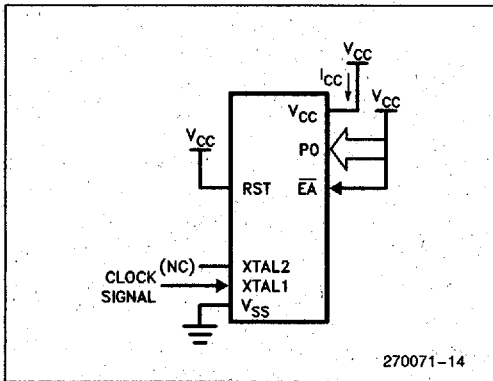

Figure 5. I_{CC} Test Condition, Active Mode.
3. I_{CC} is measured with all output pins disconnected; XTAL1 driven with TCLCH, TCHCL = 5 ns, $V_{IL} = V_{SS} + 0.5V$, $V_{IH} = V_{CC} - 0.5V$; XTAL2 N.C.; $\overline{EA} = \overline{RST} = \text{Port } 0 = V_{CC}$; I_{CC} would be slightly higher if a crystal oscillator is used (see Figure 5).